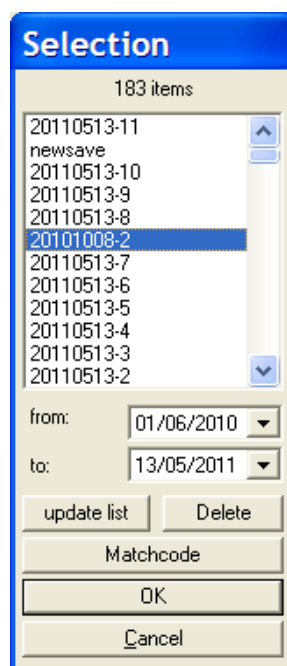

Figure 10-21: Selection – stored plates
1. From the Database menu, select **Open Saved Plate**. Selection appears and displays a list of all the stored plates (Figure 10-21).